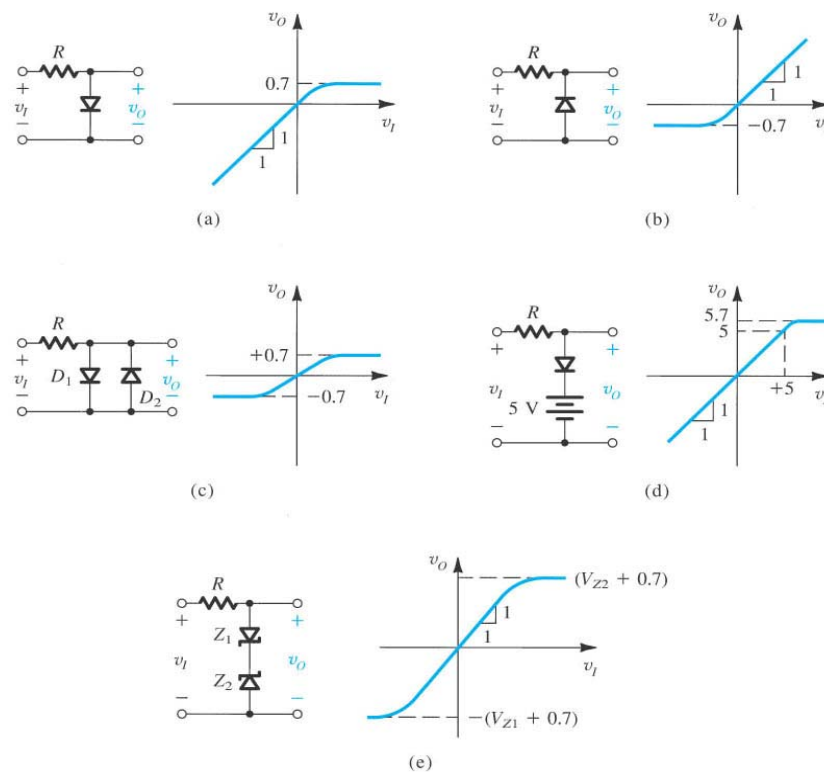

Figure 5.26: A variety of basic limiting circuits.
- Figure 5.26 (a) and (b) are single limiters.
- Figure 5.26 (c) is a double limiter.
- Figure 5.26 (d) shows that the threshold and saturation current can be controlled by using strings of diodes and/or by connecting a dc voltage in series with the diode.
- Figure 5.26 (e) shows another double limiter using double-anode Zener.